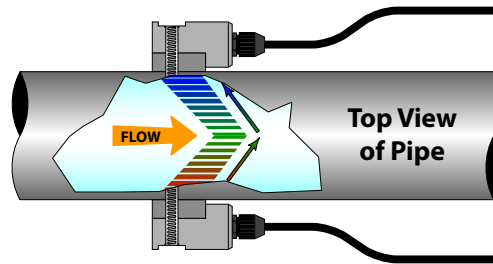

Figure 3: Transducer direction
4. Place each transducer under the mounting strap, 180° apart on the pipe. Verify that the transducer cables are facing the same direction on the downstream side of the flow. See *Figure 3.*